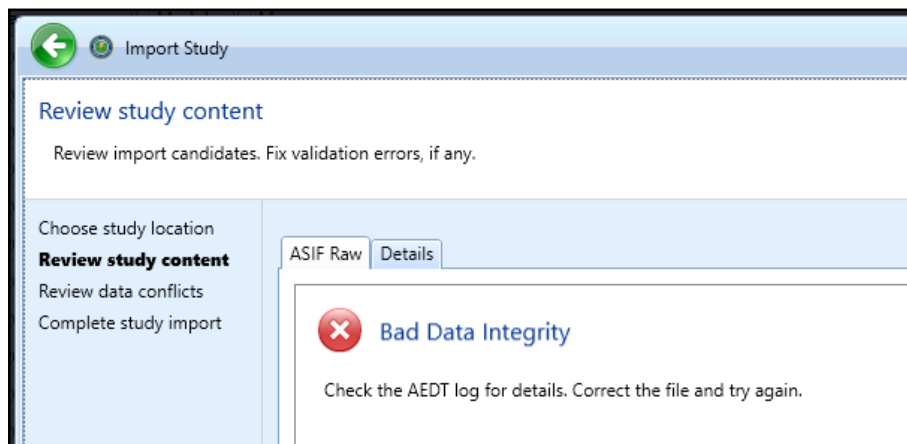

Figure 44. Review study content, Bad data integrity error
- If the “Bad Data Integrity” message appears, click *Cancel* (Figure 44). This message indicates errors in validating the XML file based on the EDMS study data. ***Please refer to Section 4.4.1 for suggestions on how to resolve these data errors.***